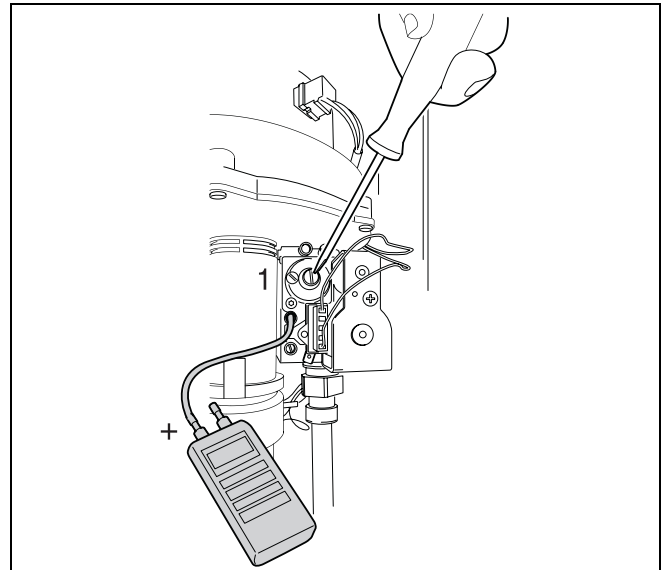

fig. 48 Adjust gas/air ratio
- Remove the safety screw with a flat head screwdriver (→ fig. 48, item 1).